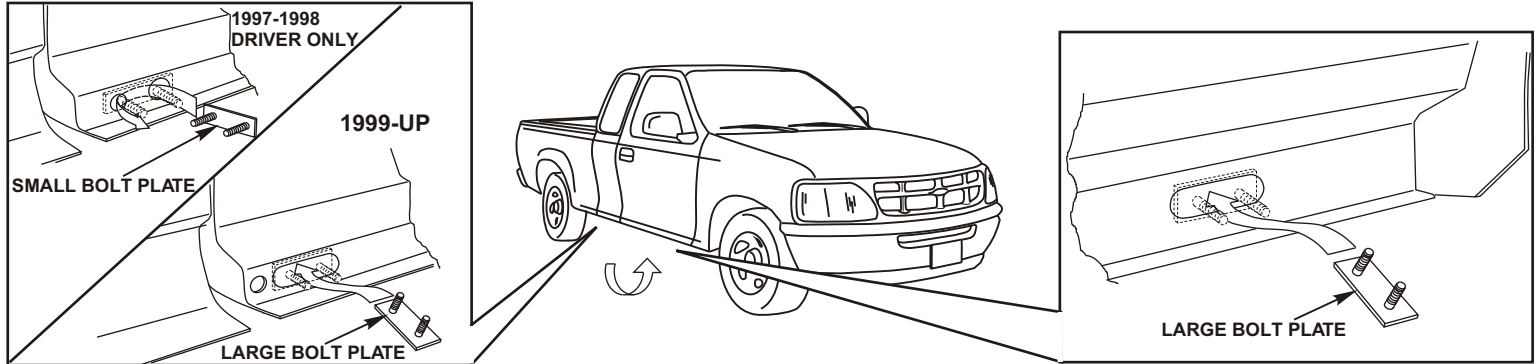
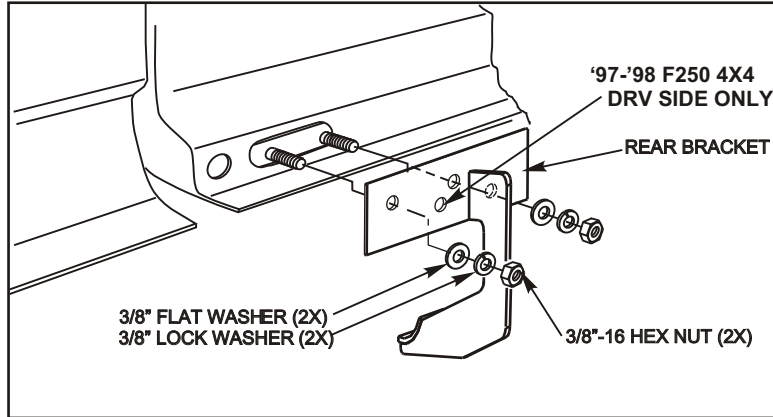

FIGURE 2 - PASSENGER SIDE SHOWN, DRIVER SIDE OPPOSITE
FIGURE 3 - PASSENGER SIDE SHOWN, DRIVER SIDE OPPOSITE
- STEP 3.** Install front mounting brackets by placing bolt plate (large) through hole in body as shown (See Figure 2). Position front bracket with downward sloping end towards front of truck. Assemble with 3/8" flat washers, lock washers and hex nuts. (See Figure 3). Leave loose.
- STEP 4.** Install rear mounting brackets by placing bolt plate (large) through hole in body as shown (See Figure 2). Assemble with 3/8" flat washers, lock washers and hex nuts. (See Figure 3). Leave loose.
NOTE: '97-'98 Extended Cab driver side rear bracket uses small bolt plate. This uses the two lower holes in the rear bracket (See Figure 3).